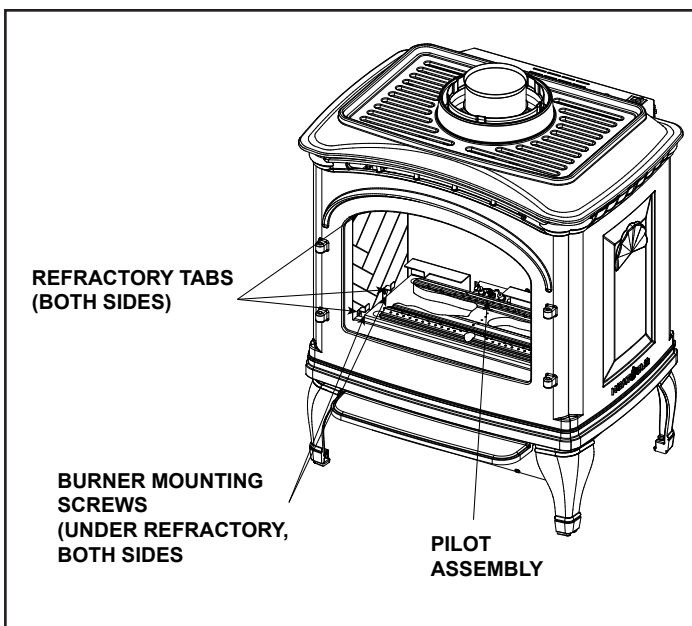

Figure 6.13 Remove Burner
12. Remove the logs and side refractory if installed. To remove side refractory, bend tab at top front corner of refractory. See Figure 6.13.
14. The pilot needs to be lifted slightly to accommodate the burner removal. Remove the two screws that attach the pilot to the burner. Lift the pilot slightly until it clears the pilot mounting tabs. See Figure 6.13.
15. Remove two burner mounting screws from each side of the burner. Lift burner up and out of appliance. See Figure 6.13.